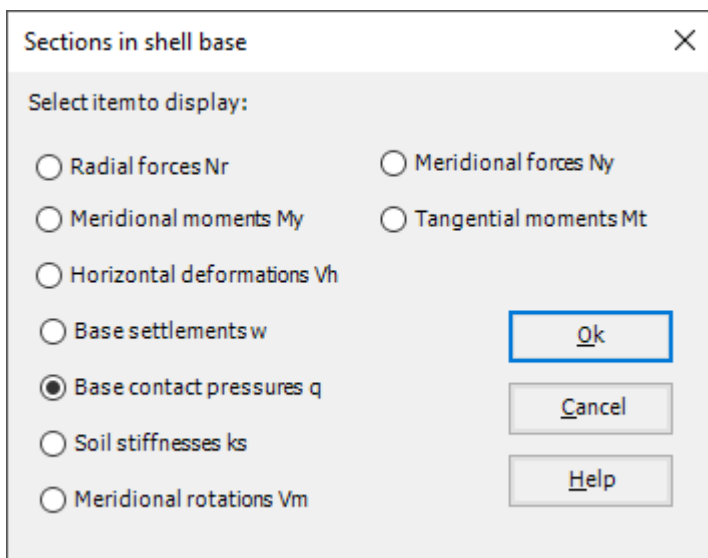

Figure 12.29 "Sections in shell base" option box
- Choose "Sections in shell base" command from "Section" menu. The following option box in Figure 12.29 appears